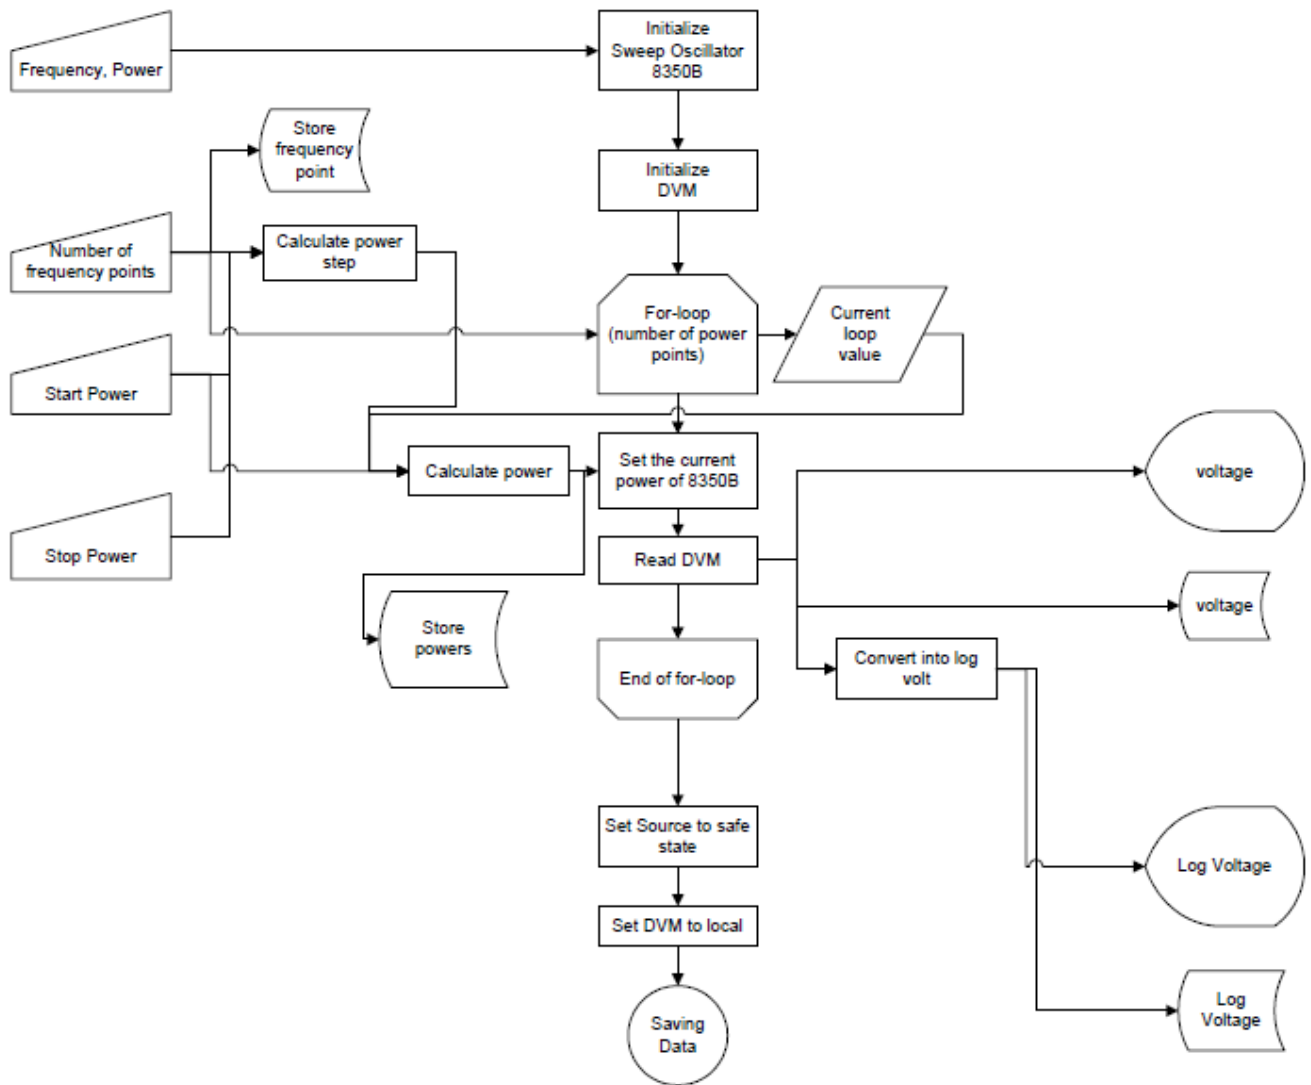

Figure 2: Suggested Program Flow Chart for Measuring and Saving Measured Values
In this tutorial, you are writing a LabVIEW Virtual Instrument (VI) in which the user defines the minimum power, maximum power, number of power points, and source frequency. The program will communicate with the instruments and collect the detector output voltages and convert them to the logarithmic voltage format, and display both the linear and logarithmic values on the computer screen. The program will then save the data in LVM file format (which is easy to use within LabVIEW, but not compatible with other applications such as Agilent ADS). Finally, you will add functionality to the program so that the user can switch the save file format from LVM to CITIfile (which can later be imported into ADS). You will use a custom VI made by ECE 451 TAs to generate the CITIfile in the correct format. Figure 2 contains the suggested program flow chart for measuring and saving values. There is also a step-by-step guide for created the VI in the LabVIEW tutorial #1. **Include a printout of your completed front panel for your report.**